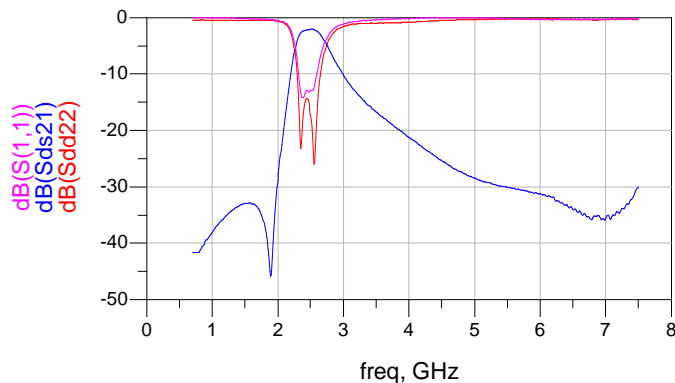

Fig. 3-1
- d) Electrical Performance: See Fig. 3-1